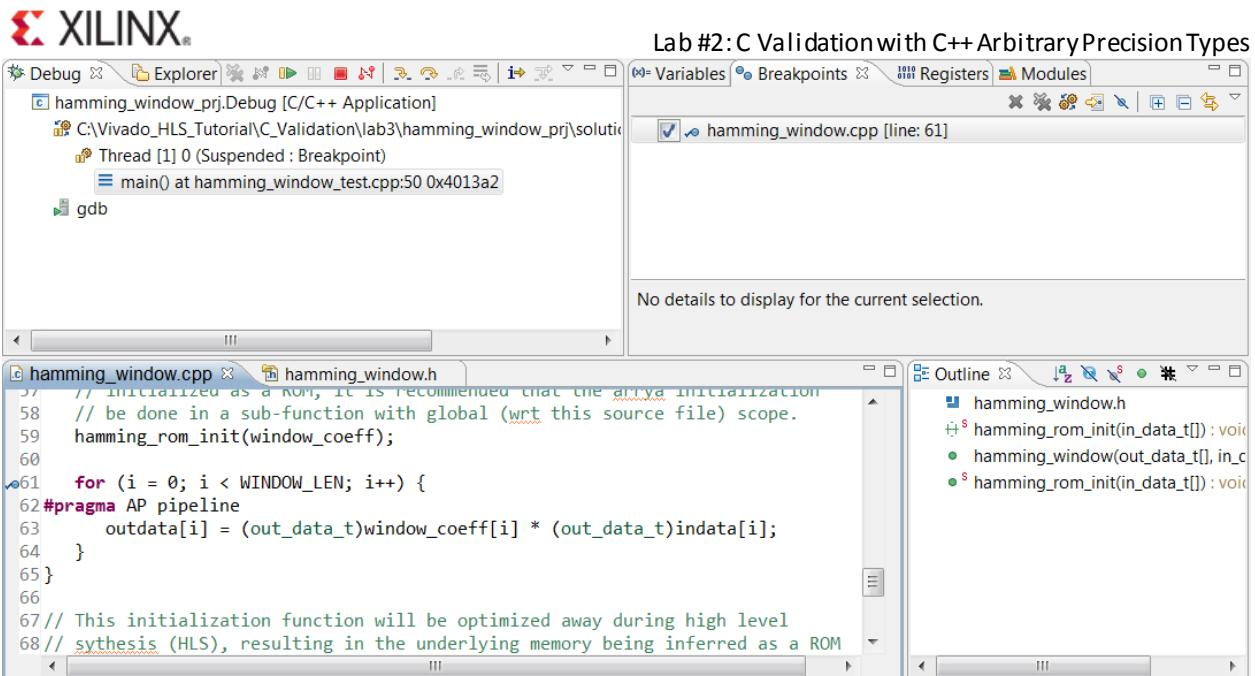

Figure 52 Debug Environment for C Validation Lab#3
5. Set a breakpoint at line 61 as shown in Figure 52.